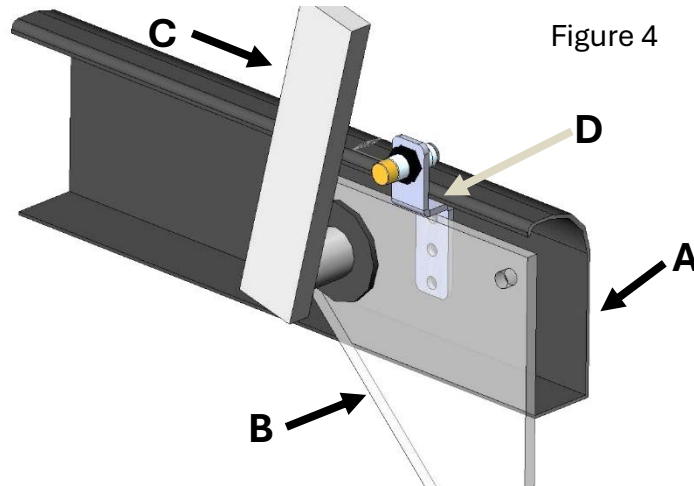

Figure 4
Locate the gathering fork arm area shown (Figure 4) on the baler as shown from standing at the front of the baler and looking to the back. The bracket will mount on the steel next to the bearing on the gathering fork. Point (A) is the sheet metal on the back of the baler, point (B) is the steel that holds the gathering fork bearing, point (C) is the back arm on the gathering fork.